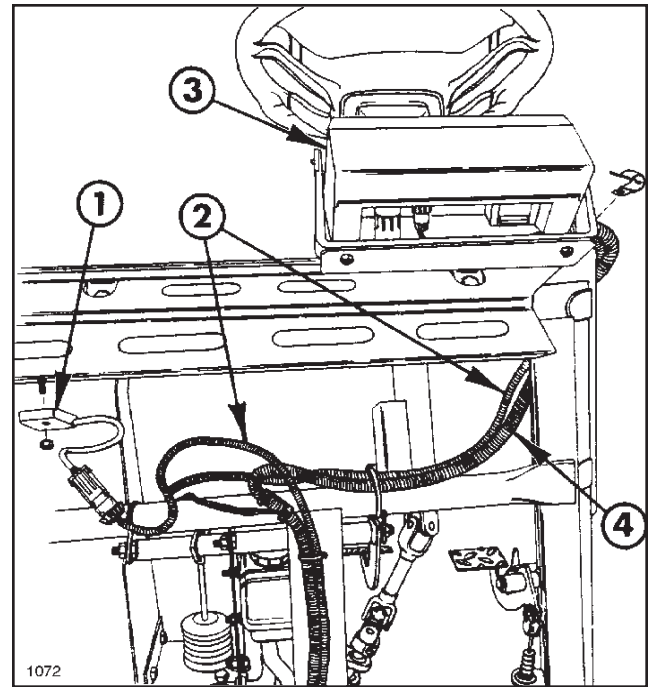

FIG. 7
5. Connect the Console Control Cable plug to the back of the Console. Route the Control Cable under the dash and through the opening in the floorboard (FIG. 7). Loosen the bolts on the channel under the floorboard and feed the cable through the channel. Connect the Extension Cable to the Console Cable and route along the left side of the vehicle to the rear of vehicle frame.
6. Connect the Speed Sensor Cable plug to the back of the Console. Route the Speed Control Cable under the dash, through the opening in the floorboard and through the channel under the floor (FIG. 7). Route the remaining cable along the left side of the vehicle and connect to the Speed Sensor located on top of the transaxle.
7. Locate and mount the Frequency Divider using the #8 x 1-1/4" machine screw and #8 nut in the existing hole found on the underside of the top dash support frame. See FIG. 7.
8. Plug the connector from the Speed Sensor Cable into the Frequency Divider (FIG. 7).
14. Remove the (2) screws that hold the Console and Console Mounting Bracket to the vehicle.
15. Reinstall the hood and remount the Console Mounting Bracket using the (15) screws and washers earlier removed. Install the "R" clamp on the Console Control Cable and secure (FIG. 7).